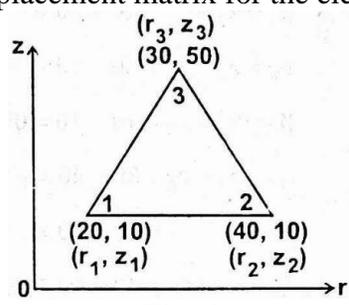

Fig. 4
7. Determine the shape functions at the interior point 'P' for the triangular element shown in Fig. 4. 14M
10. The nodal coordinates for an axisymmetric triangular element shown in Fig. 4 are given below